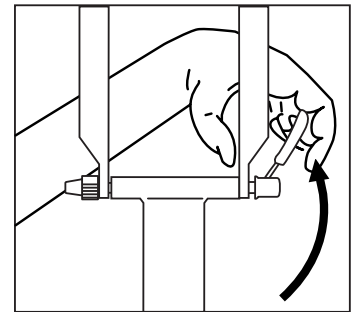

figure 8
4. Tighten the quick release skewer by first adjusting the length of the skewer with the nut on the opposite end, then push the lever from it's open position to its closed position as shown in *figure 8*.